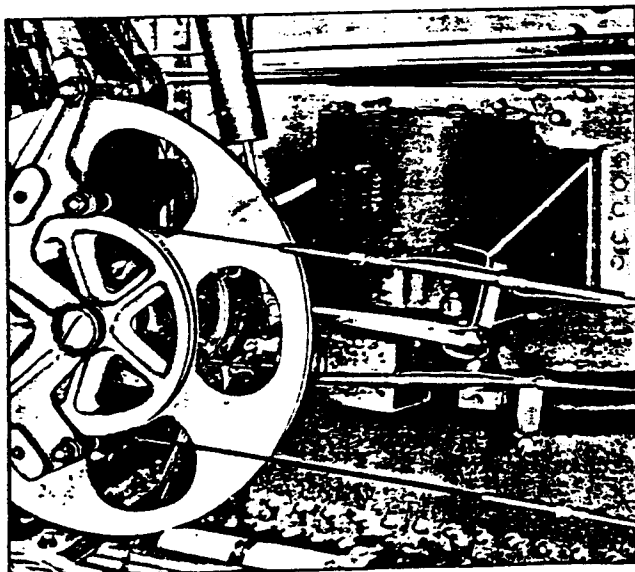

Figure 5. Oil Transfer Pump
d. OIL TRANSFER PUMPS. (See figure 5.)
(1) DESCRIPTION.- Two type S-1145A (Pescos) oil transfer pumps are installed in the oil transfer lines; one between the inboard and outboard oil tanks on each side of the airplane. Each pump is electrically controlled by manually-operated momentary switches, located on the engineer's switch panel, making it possible to transfer oil from either an inboard to an outboard oil tank, or from an outboard to an inboard oil tank on the same side of the airplane. The reversible electric motors which drive the pumps operate on 208 volts, 400 cycles, 3 phase, a.c. A 28 volt d.c. control circuit operates a reversing relay which is mounted on the wheel well relay panel. The relay closes the 208 volt, 400 cycle, 3 phase, a.c. circuit to operate the electric motor and transfer the oil